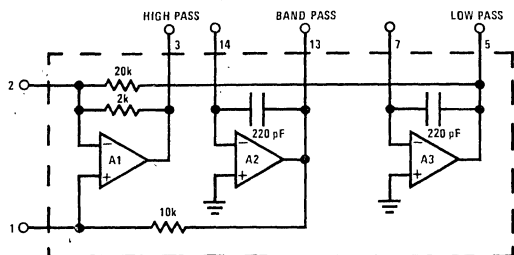

FIGURE 1. AF150 Schematic
A schematic of the AF150 is shown in *Figure 1*. Amplifier A1 is a summing amplifier with inputs from integrator A2 to the non-inverting input and integrator A3 to the inverting input.
*The discussion of "non-inverting" and "inverting" has to do with the phase relationship between the input port and the low pass output port. Refer to Figure 1 for other output port phase relationships.